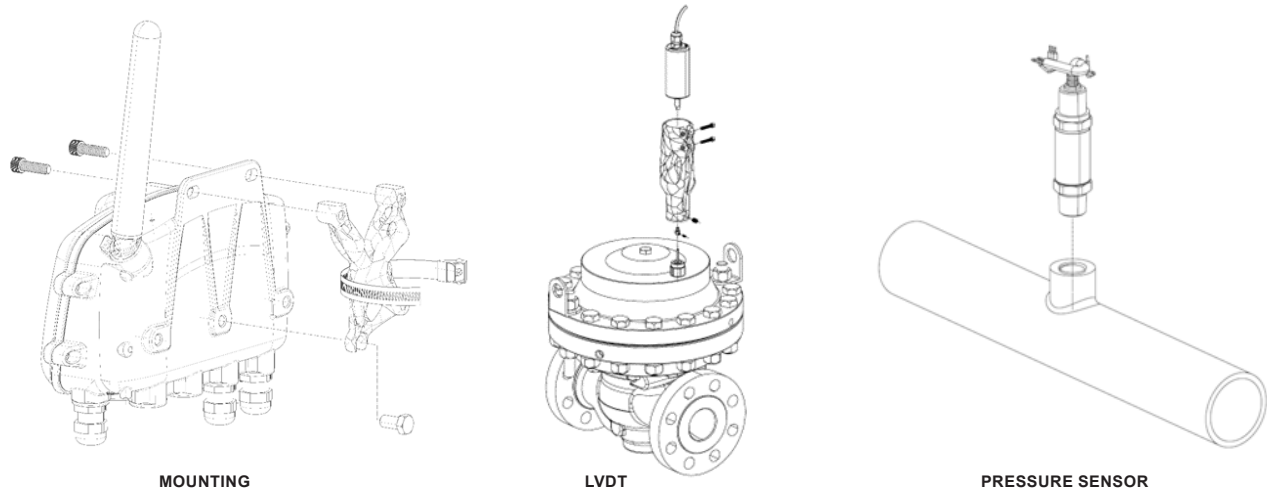

Figure 3. Installation Procedures
1. Tighten all three mounting screws by hand with the bracket oriented as shown in Figure 3.
3. Install the pipe clamp as shown in Figure 3.
Linear Variable Differential Transducer (LVDT) Bracket and Installation (Figure 3)
Pressure Sensor Installation (Figure 3)